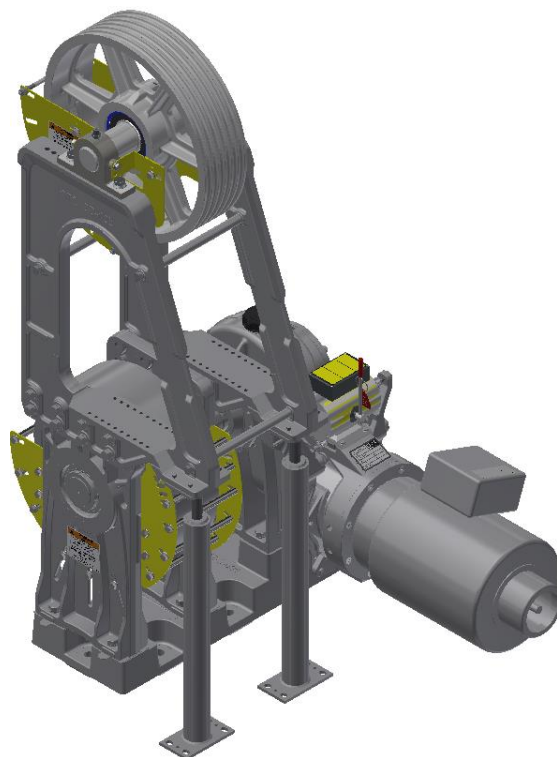

Figure 4-16: Finished GT11 Assembly
- See Figure 4-16 for an illustration of the finished assembly.